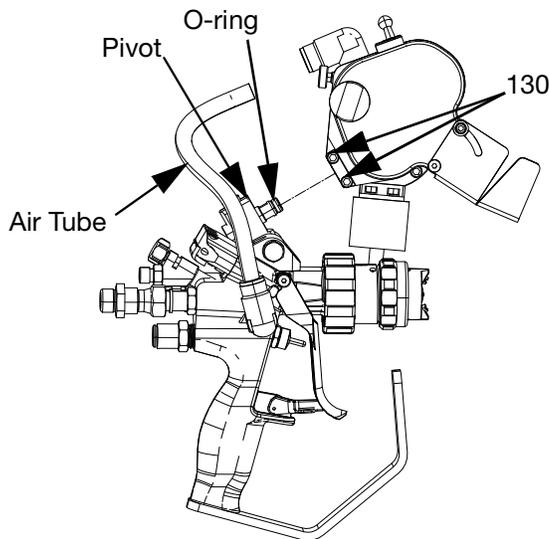

FIG. 4
4. Use a crescent wrench to install the new elbow fitting (158) and the 3/8 in. air tube (160) where Fitting A was removed.
5. If necessary, use a crescent wrench to adjust the pivot so that it is parallel to the gun front with the open end pointing to the front of the gun. See FIG. 4.
6. Back out the screws (130). See FIG. 4.
- NOTE:** Ensure proper engagement of the o-ring into the cutter assembly. Verify that there is no excess air leakage because it will greatly reduce the performance of the air motor. See FIG. 4.
8. Tighten the screws (130) to lock the cutter in place.